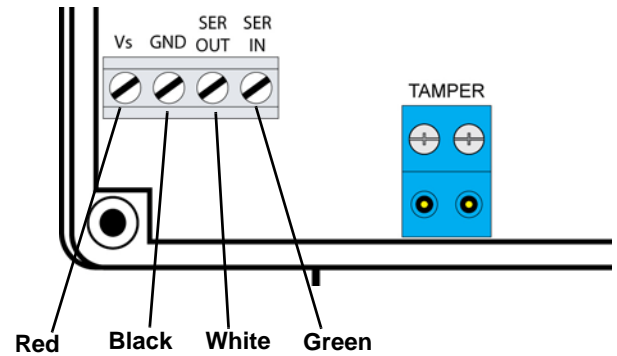

Figure 1 ACC653 serial data and power connections
2. Connect the ACC653 serial and power cable to the network coordinator's serial data and power terminal per Figure 1.